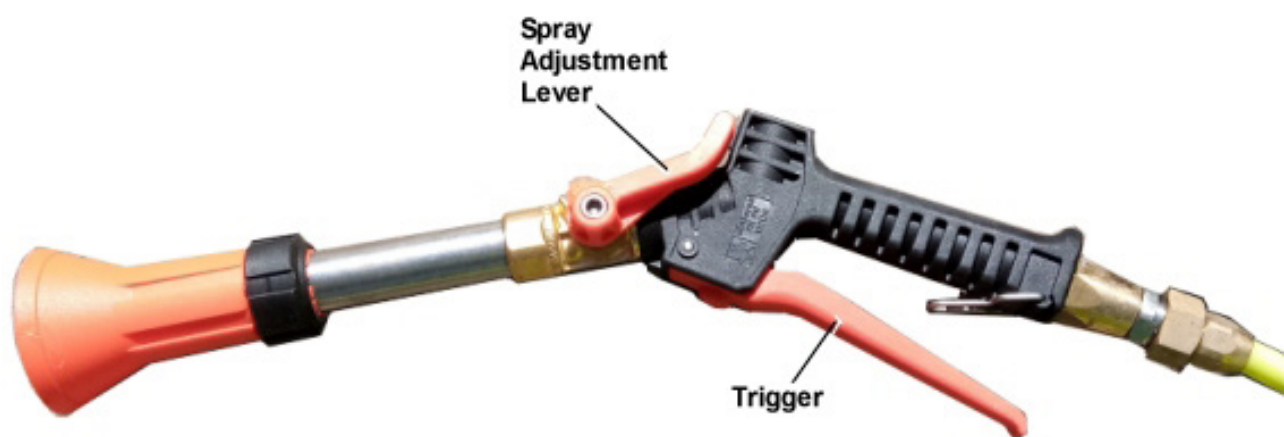

Figure 4 - Spray Gun (typical)
10. Aim the hose's spray gun in the required direction and squeeze the trigger. Adjust the spray pattern by operating the lever on the spray gun handle, refer to Figure 4.